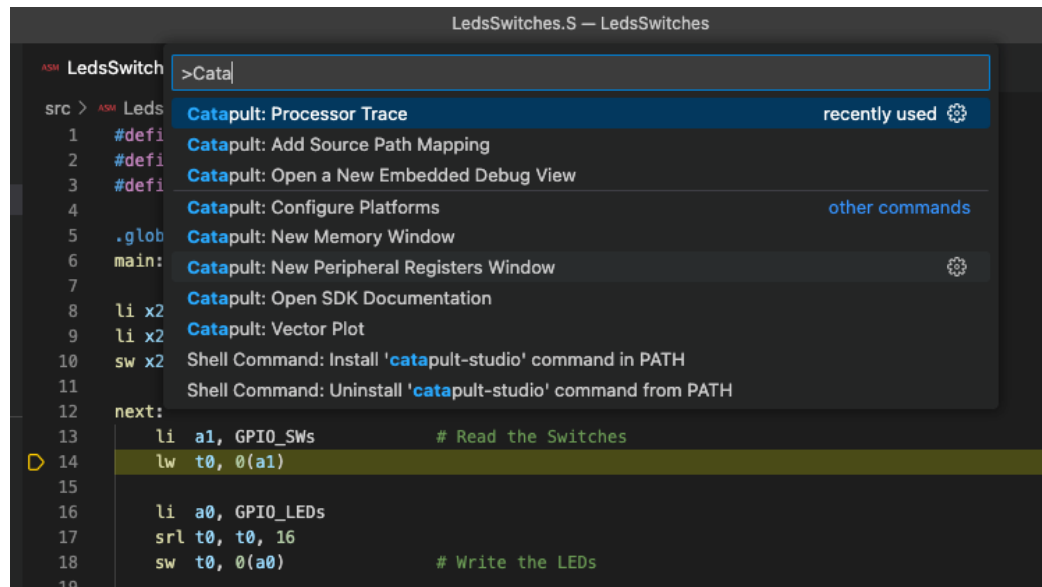

Figure 46: Using the command palette to access embedded debug features
- b. Press CTRL-Shift-P (CMD-P on Mac) to bring up the Catapult Studio command palette. (Note that the P must be upper-case). Start typing “Catapult” to get a list of Catapult-specific commands, then select “Catapult: New Peripheral Registers Window” (Figure 46).